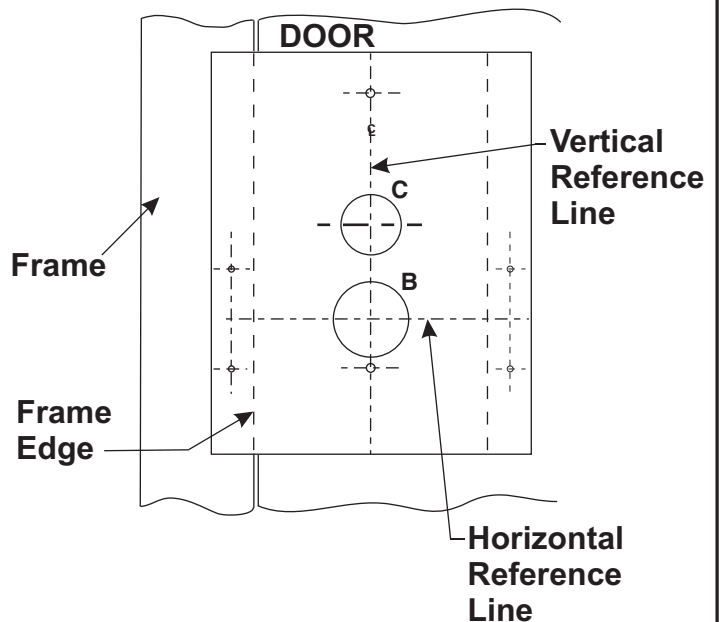

Figure 2
2. Use a center punch to mark door for (2) .144"(3.7mm) Dia. (#27 Drill) mounting holes for the Device Mounting Base (Shown Below).
3. Use a center punch to mark frame for (2) .099"(2.5mm) Dia. (#39 Drill) holes for the Magnet (Shown Below).
4. If outside Cylinder Control Option is to be used, bore a 1-1/4"(32mm) Dia. Hole thru door. **Fig. 2 'B' Hole**
5. For Hardwire option requiring door preparation, mark and bore a 1"(25mm) Dia. Hole to required depth. **Fig. 2 'C' Hole**
6. Install Magnet to door frame with (2) #4 screws supplied.